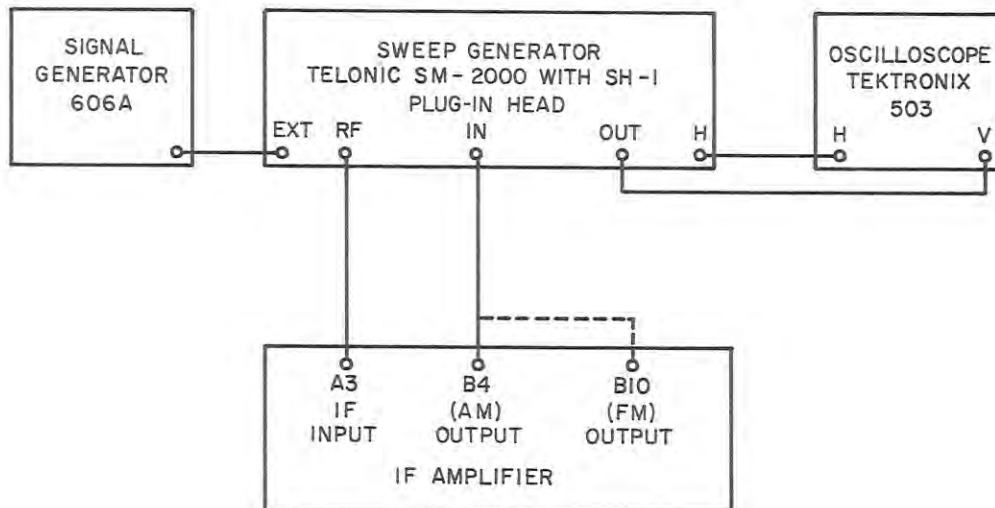

Figure 5-13. IF Amplifier Alignment Test Setup.
(1) AM Alignment:
- a. Connect the test setup as shown in Figure 5-13.
(2) FM Alignment
- b. Connect terminal B10 of IF module to sweep generator; refer to Figure 5-13.